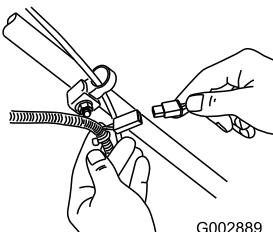

Figure 49
1. Connect the charger to the mower wire harness located below the ignition key (Figure 49).